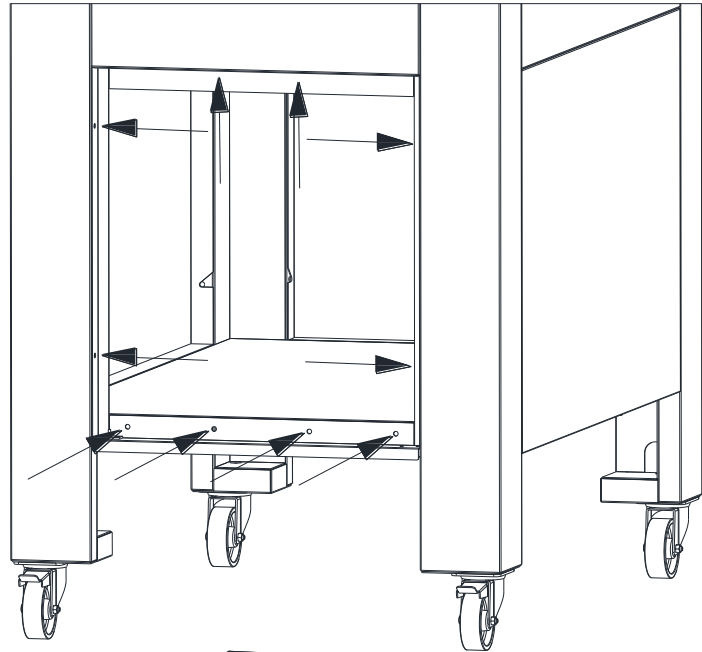

Fig.3
- 3- Secure the door support crosspieces to the legs, shelf and front crosspiece of the base with the screws on the legs (Fig.3).